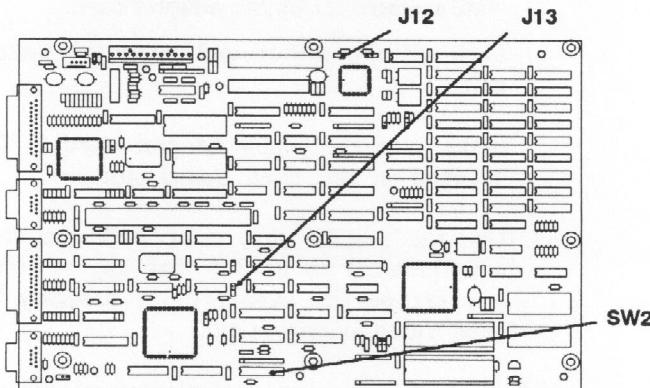

Figure 3. Video Display Switch and Jumper Locations
2. Use Figure 3 to find switch bank SW2, and jumpers J12 and J13 on the system board. Switches 1 and 2 in SW2 and jumper J12 select the video mode of the onboard video controller. Jumper J13 enables or disables the onboard video controller.